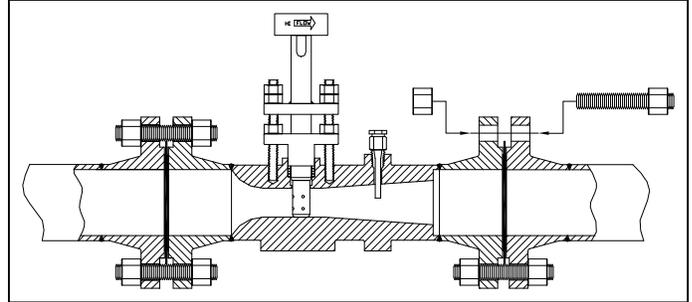

Figure 4. In-Line Accelabar
- Place the appropriate spiral-wound gasket between the pipe flanges and the Accelabar flanges (see Figure 4).